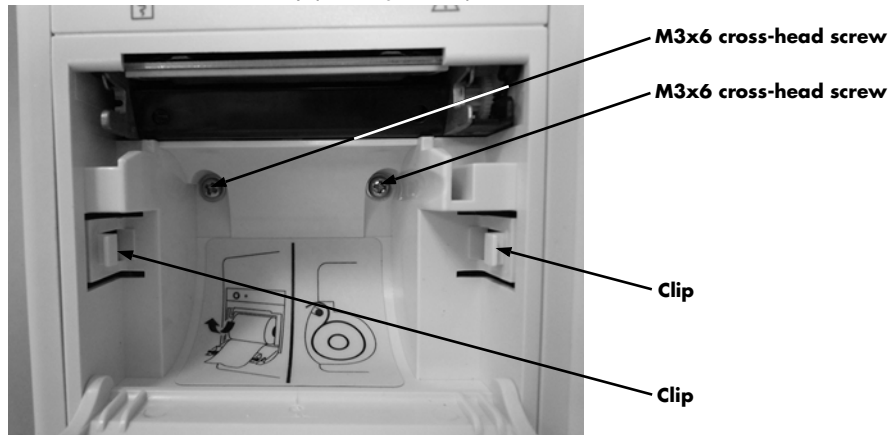

FIGURE 4-12 Remove two (2) M3x6 cross-head screws.
1. Remove the two (2) M3x6 cross-head screws (as shown in Figure 4-12).